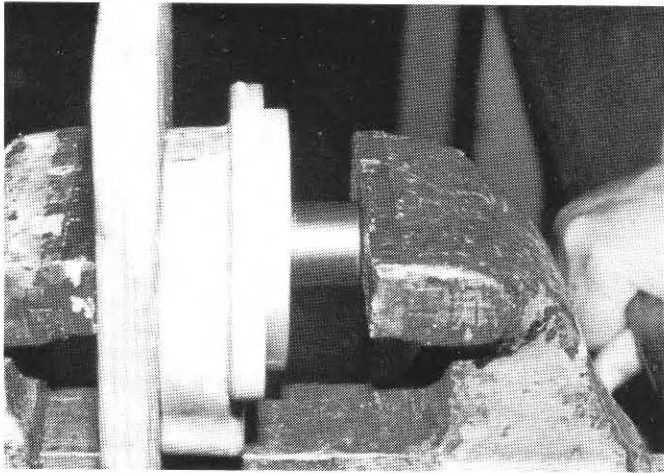

FIG. 7
12. Loosen the vise and place a socket wrench having an o.d. slightly smaller than the seal bore against the seal. Tighten the vise and press the seal in until it clears the groove in the bore. Apply two or three drops of #290 loctite at the outer diameter of the seal. Rotate the flange in such a manner that the loctite runs around the o.d. of the seal where it makes contact with the bore. Install the snap ring and wipe excess loctite out of the seal bore. Also remove any that may have gotten on the seal lip. (Fig. 7)